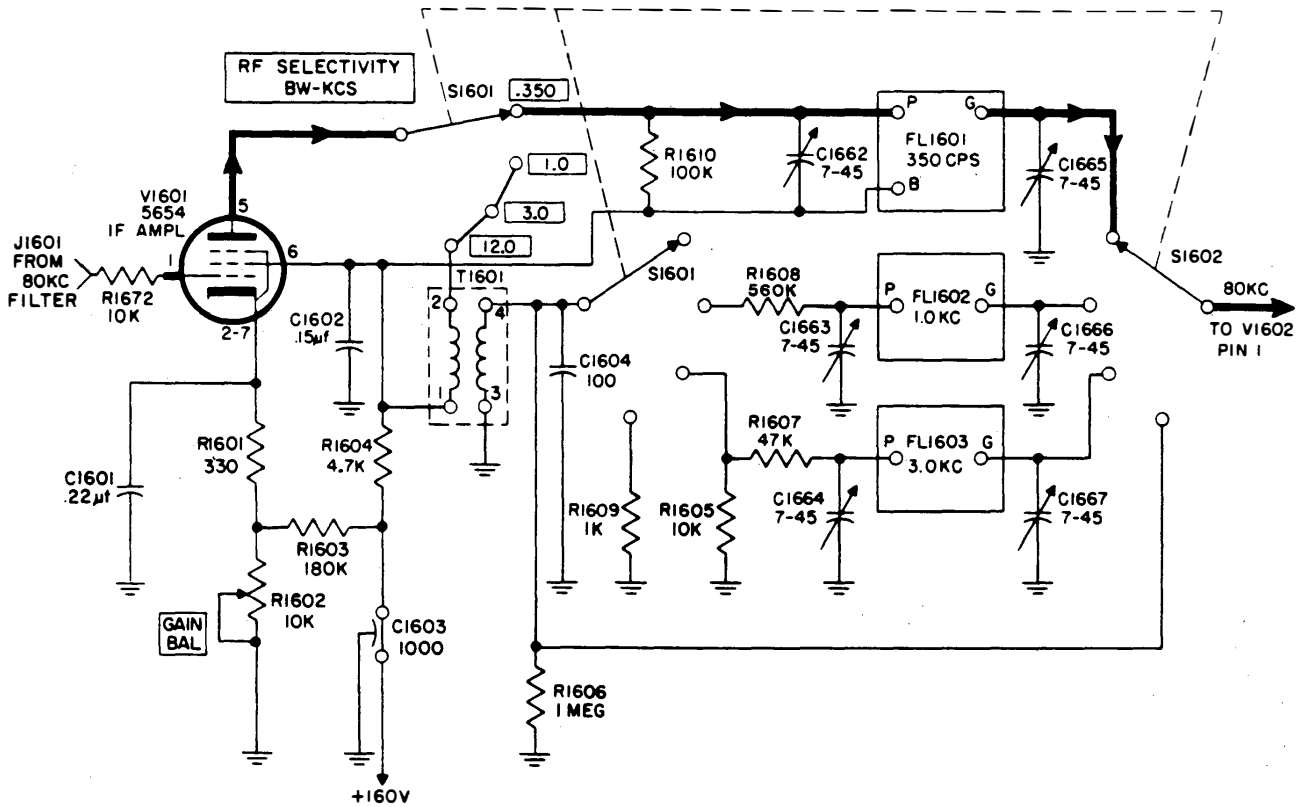

Figure 4-18. IF Amplifier V1601, Simplified Schematic Diagram
*a.* 80 KC IF AMPLIFIER. (See figures 4-18 and 4-19.)
—The 80 kc IF amplifier has provisions for selection of four possible bandwidths—0.35 kc, 1 kc, 3 kc, and 12 kc, depending on the nature of received signals. These bandwidths are selected by the R.F. SELECTIVITY BW-KCS control. As shown in figure 4-18, the signal from the 80 kc IF filter is applied to IF amplifier V1601 through connector J1601. The gain of V1601 is controlled by GAIN BAL potentiometer R1602, which